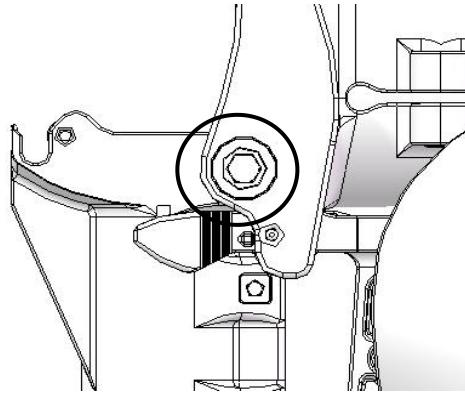

figure 9
- 3) Match 6mm inner hole of arm clamp with copter's main part 6mm inner hole, see figure 9.